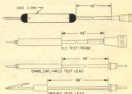

FIGURE 1.3 TEST LEADS
The following leads, as shown in Figure 1.3, are furnished with the Model 200A:
(1) Make visual inspection of the unit to see that it has not been damaged in shipment. Be sure that all test leads are with the unit. Refer to Figure 1-3 - Test Leads. Observe if the indicator is at zero. To reset to zero, turn mechanical adjust on the indicator with a screwdriver. Plug unit into the a.c. line and operate the power switch to ON. The pilot light should come on.
(2) After one minute warm-up, turn FUNCTION SELECTOR to A.C. VOLTS and the CIRCUIT SELECTOR to NORMAL. Rotate the RANGE SELECTOR to 2 VOLTS. Adjust Zero Adjust Control until the indicator comes to zero.
(3) Turn FUNCTION SELECTOR to + 2.0, and - 2.0, respectively. The indicator should stay approximately at zero.
(4) Turn FUNCTION SELECTOR to OHMS. The